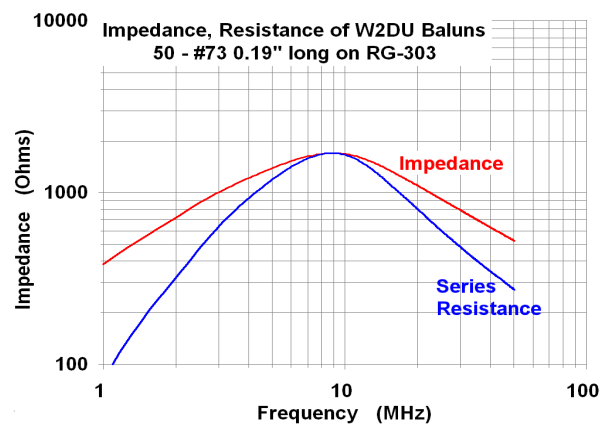

Fig 34 – A W2DU Balun (Measured Data)
- ♦ **Lossy Ferrite Choke Balun** Maxwell introduced the concept of passing a coaxial line through a string of lossy ferrite cores to form a common mode choke, a design which has come to be known as the W2DU balun. Maxwell's design consists of 50 Fair-Rite 2673002402 beads, 0.19" long and just big enough to fit over RG-303 coax (Fig 34). One of his experimental models used 300 beads, and measured $4500 + j3800$ ohms at 4 MHz.